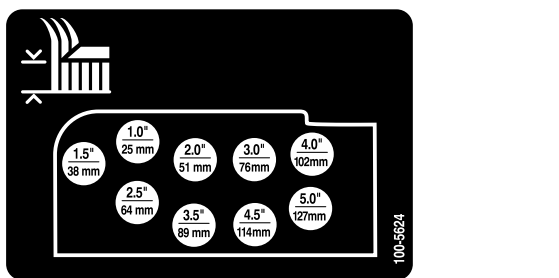

Figure 19
- Mount the height-of-cut chains to the desired height-of-cut hole with the clevis pin and hairpin cotter (Figure 19).